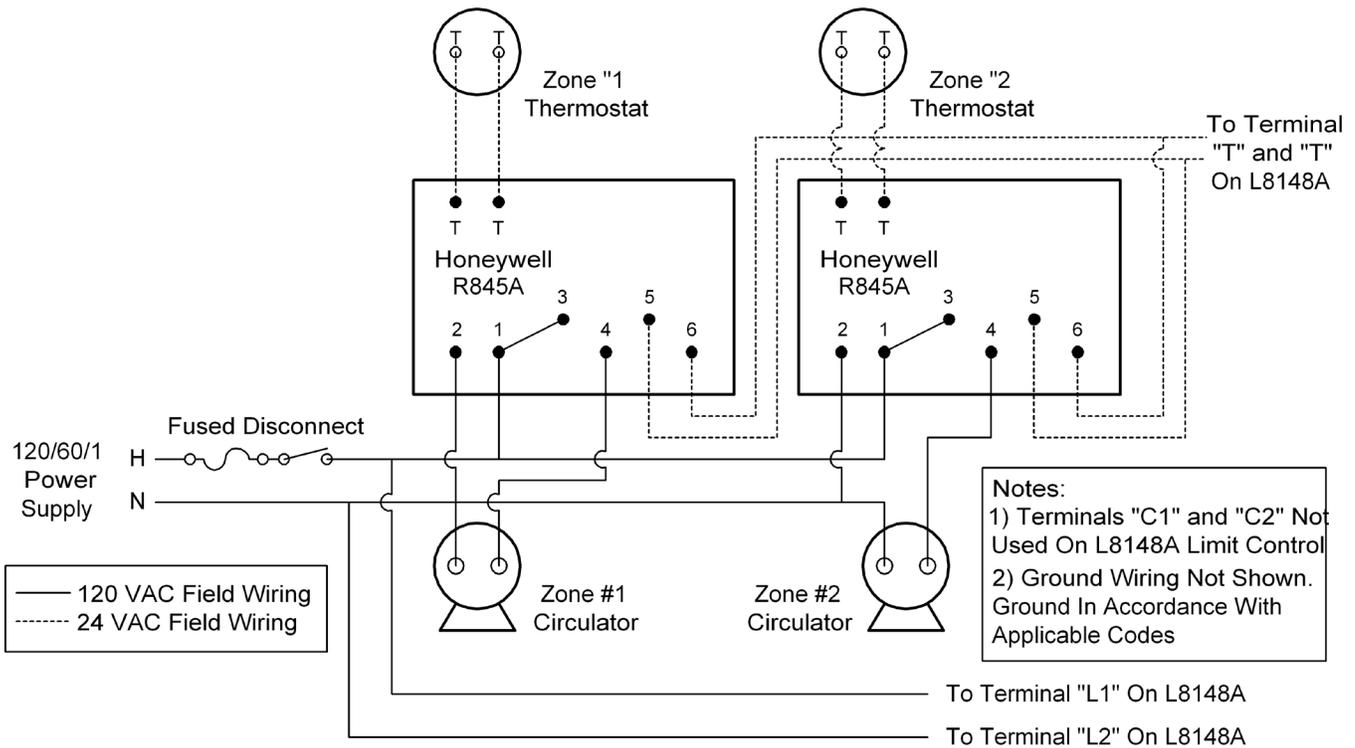

Figure 22 – Wiring diagram, zone wiring using Honeywell V8043F valves (factory boiler wiring not shown here – see figure 21)
1. Multiple Circulator Zones—Figure 22 shows wiring for two or more circulator zones using Honeywell R845As. One R845A is required for each circulator zone. Circulator terminals “C1” and “C2” on the L8148A are not used. A DPST Honeywell RA832A may be substituted in place of the R845A using the “X” and “X” terminals in place of the “5” and “6” terminals on a R845A. A call for heat from any thermostat will energize the DPST relay in that zone’s R845A. When this relay is energized, electrical continuity is created between terminals 3 and 4, energizing the circulator for that zone. At the same time, electrical continuity is created between terminals 5 and 6 on the R845A, creating a current path from terminal “T” to “T” on the L8148A. Assuming that the supply water temperature is below the high limit setting, the normal ignition sequence will be initiated.